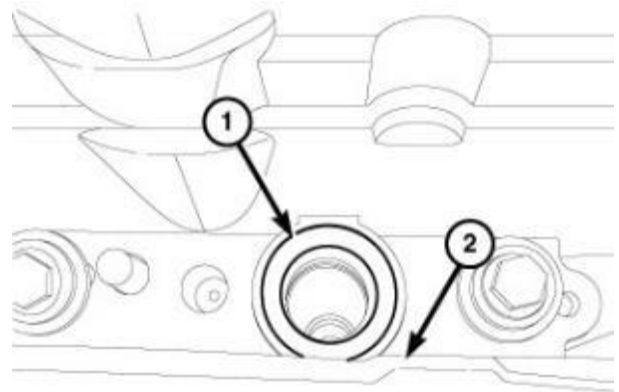

Figure 37 – Fuel Injector Seal
52. Install a **NEW** fuel injector seal (1) in the cylinder head cover (2) (Figure 37).